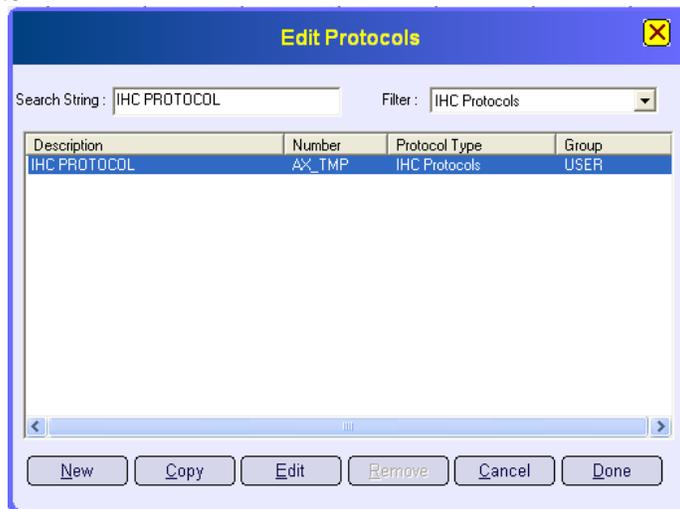

Figure 31: <Edit Protocol> Window
1. From the <Edit Protocol> window (Figure 31), highlight Protocol template and select the <Edit> button.